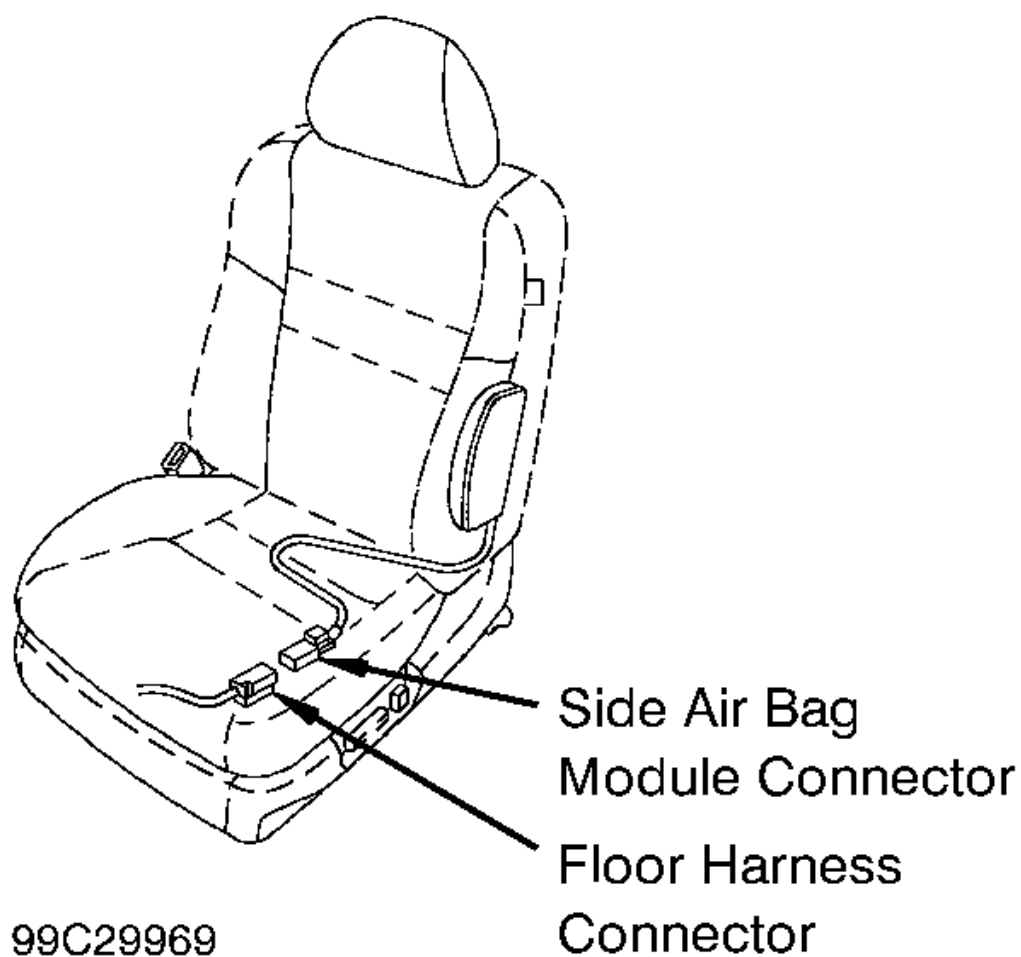
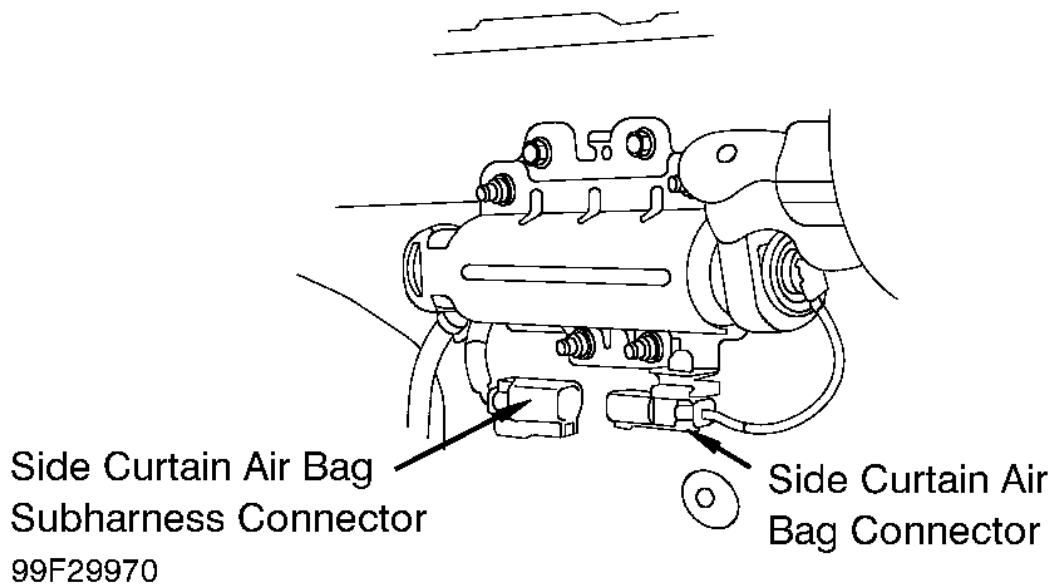

Fig. 6: Identifying Side Air Bag Module Connector
Fig. 7: Identifying Side Curtain Air Bag Module Connector
3. To deploy side air bag, disconnect side air bag connector from SRS floor harness. See **Fig. 6** . To deploy side curtain air bag, remove headliner and disconnect side curtain air bag module connector from roof wire harness. See **Fig. 7** .